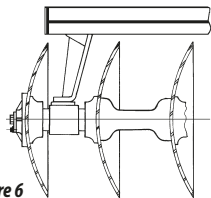

Figure 6
- 12 - When assembling the frame with the disc sections, observe that the bearing support (shoe) must face the concavity of the discs, as shown in figure 6.